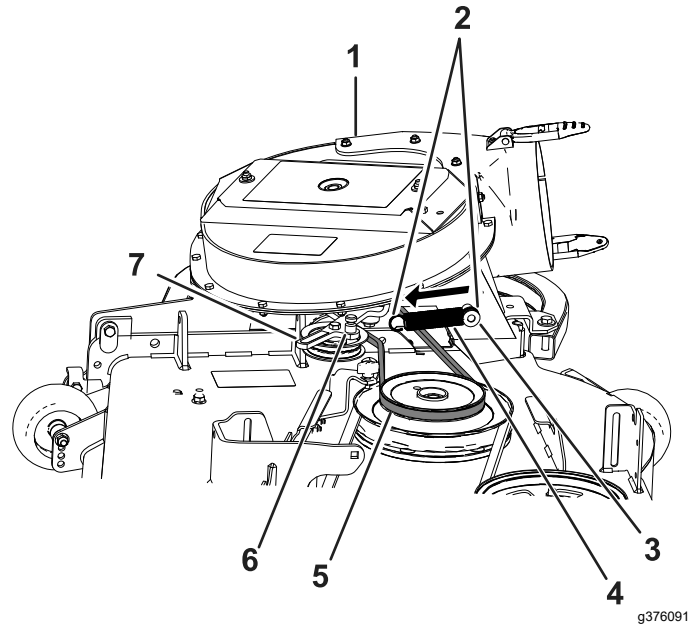

Figure 38
2. Temporarily route the belt beneath the drive pulley (Figure 38).
3. Move the idler-pivot bracket toward the fixed spring post and install the spring by aligning the spring hook onto the idler-spring post (Figure 38).
4. Pull the spring-loaded idler pulley away from the fixed spring post, and route the belt around the drive pulley (Figure 38).